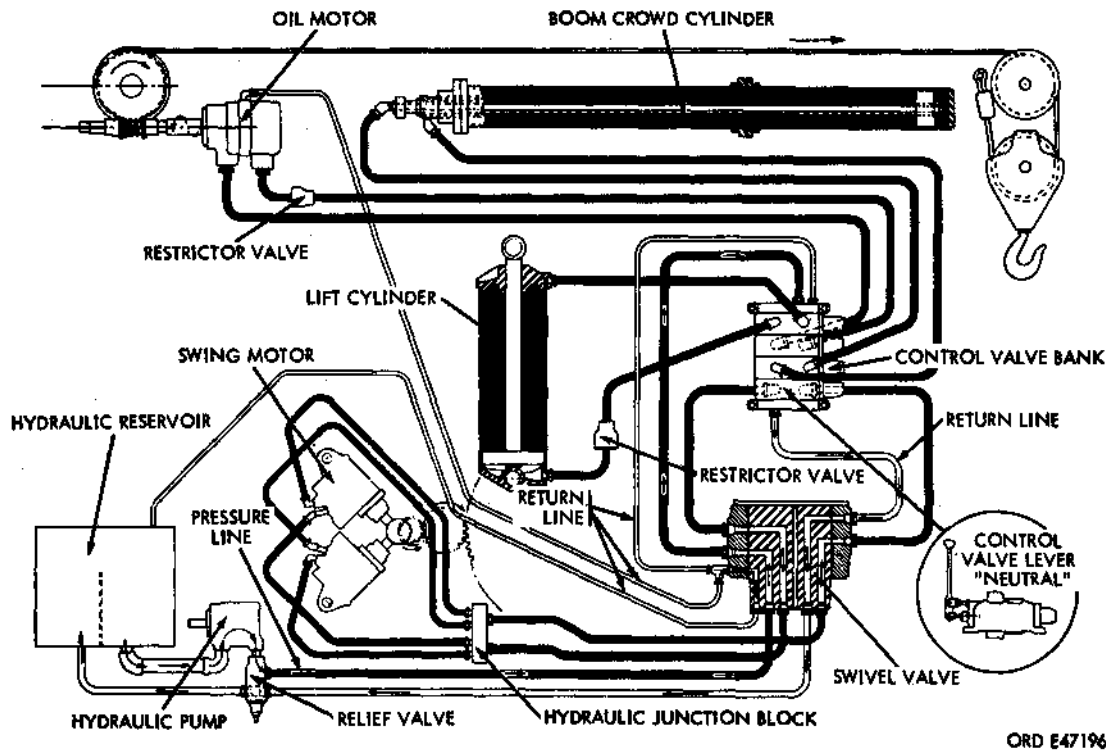

Figure 408. Crane hydraulic system (M62)
n. Hydraulic System. The wrecker crane hydraulic system (fig. 408) is completely sealed except for the breather-type reservoir filler cap. A bayonet-type oil level gage attached to a square-head pipe plug is installed in the top of the reservoir.